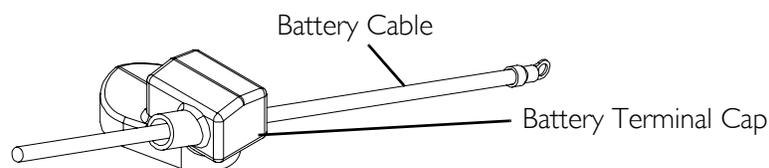

FIGURE 12.2 Connecting/Disconnecting Battery Cables
Battery terminal configuration as shown in Detail “A” of **FIGURE 12.2** **MUST** be used. Batteries that have the terminal configuration reversed **MUST NOT** be used - otherwise serious injury or damage may occur.
NOTE: For this procedure, refer to FIGURE 12.2 and FIGURE 12.3 on page 61.
1. Install RED battery terminal cap onto RED battery cable (FIGURE 12.2).
2. Install GREY battery terminal cap onto BLACK battery cable (FIGURE 12.2).
6. Slide terminal caps down battery cables and onto battery clamps (FIGURE 12.2).
NOTE: For this procedure, refer to FIGURE 12.2 on page 60 and FIGURE 12.3 on page 61.
4. Slide terminal cap(s) UP on the battery cable(s) (FIGURE 12.2).